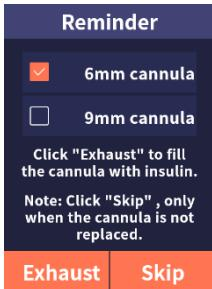

Figure 4.27
(4) Exhaust. Select the length of the soft cannula you are using, and then click "Exhaust", the insulin will fill the soft cannula (as shown in Figure 4.27).